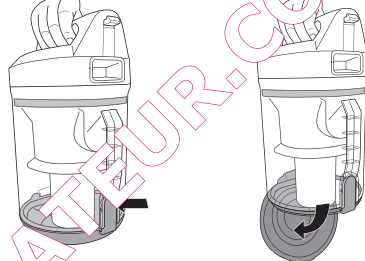

Figure 10
4. Press the button in the handle to open the bottom flap (see figure 10).